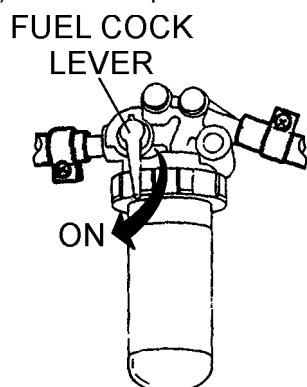

Figure 21. Fuel Cock Lever (ON)
1. Open the cabinet door and turn the fuel cock lever (Figure 21) to the "ON" position.